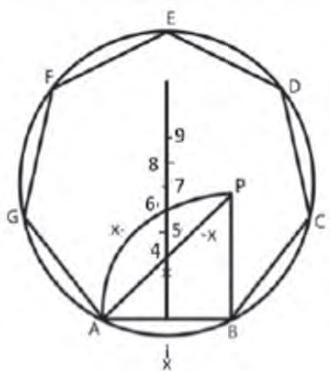

Fig. 6.26: Drawing polygon
**Solution: Method-3 (Fig.6.26 )**